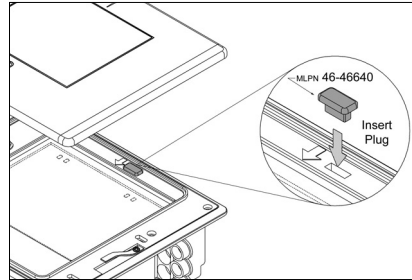

Figure 16: POS Plug Installation
- Insert the POS plug (MLPN 46-46640) into the slot indicated in Figure 16.